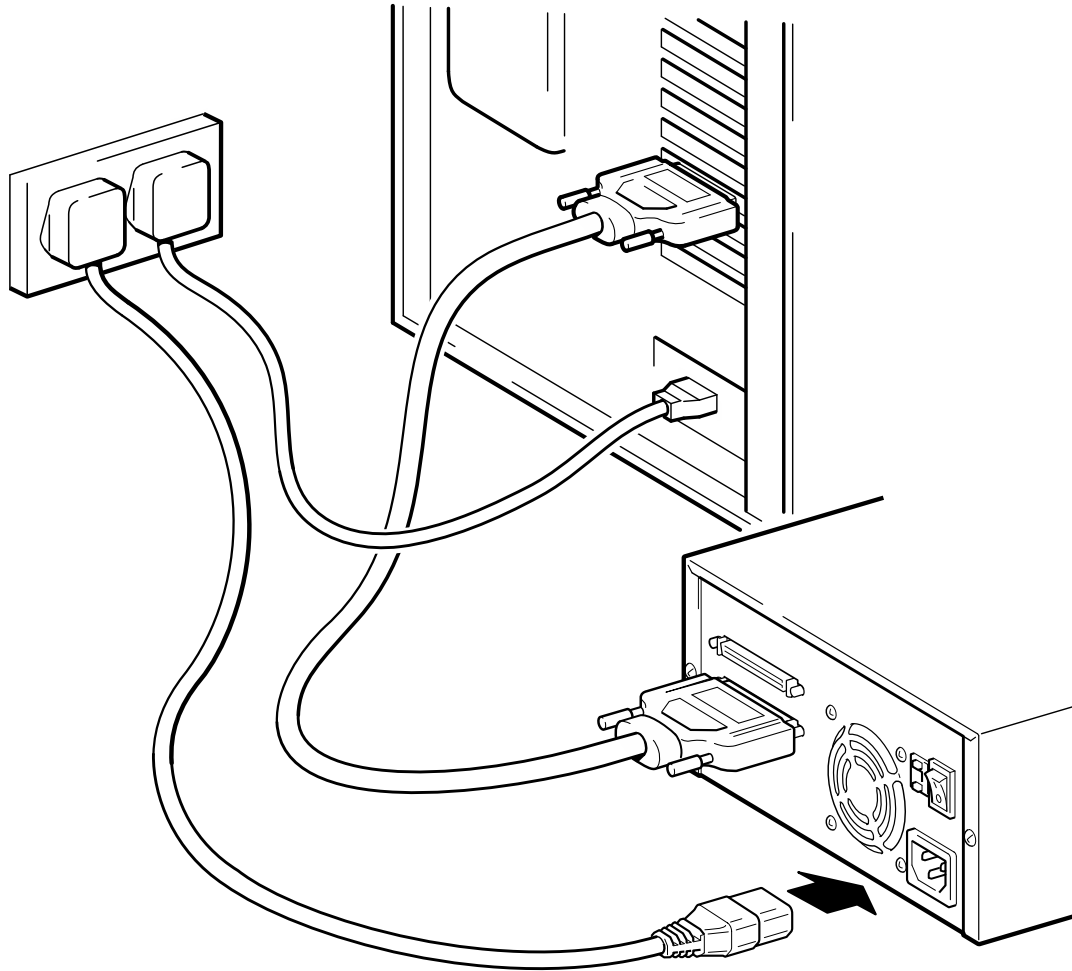

Figure 3: connecting the power cable
- 1** Plug the power cable securely into the socket on the rear panel of the drive. (See figure 3.)